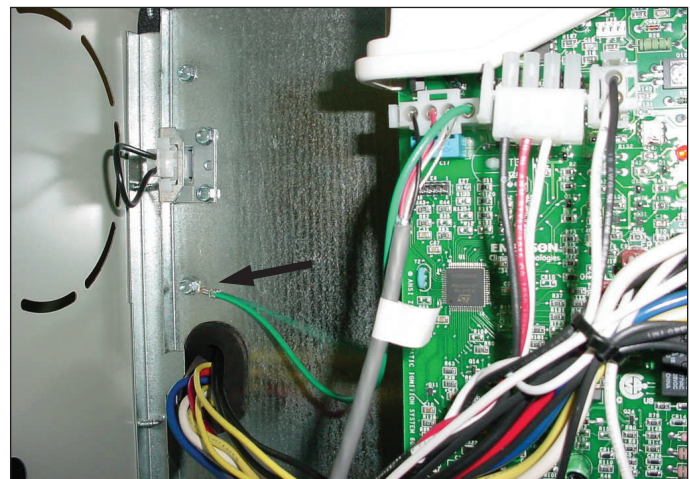

FIGURE 5 DOWNFLOW
7. Locate the end of the shielded cable harness labeled "CONTROL END" and connect the 4 pin connector to the control. Secure the Green ground lead found on the 4 pin connector to the sheet metal blower panel found behind the control mounting platform using one of the existing mounting screws. See Figure 5.